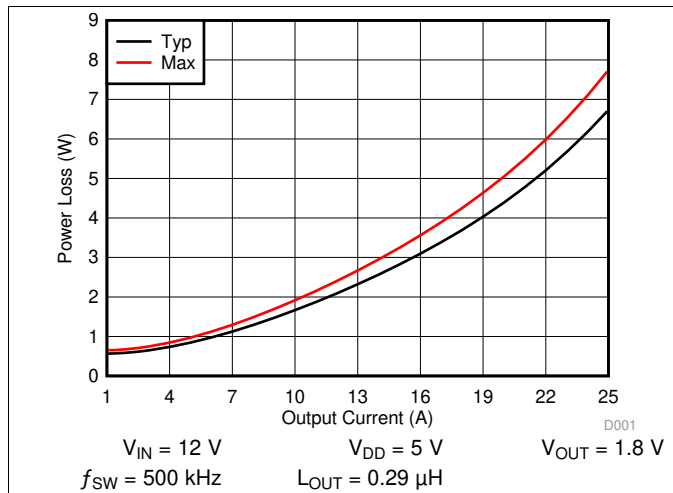
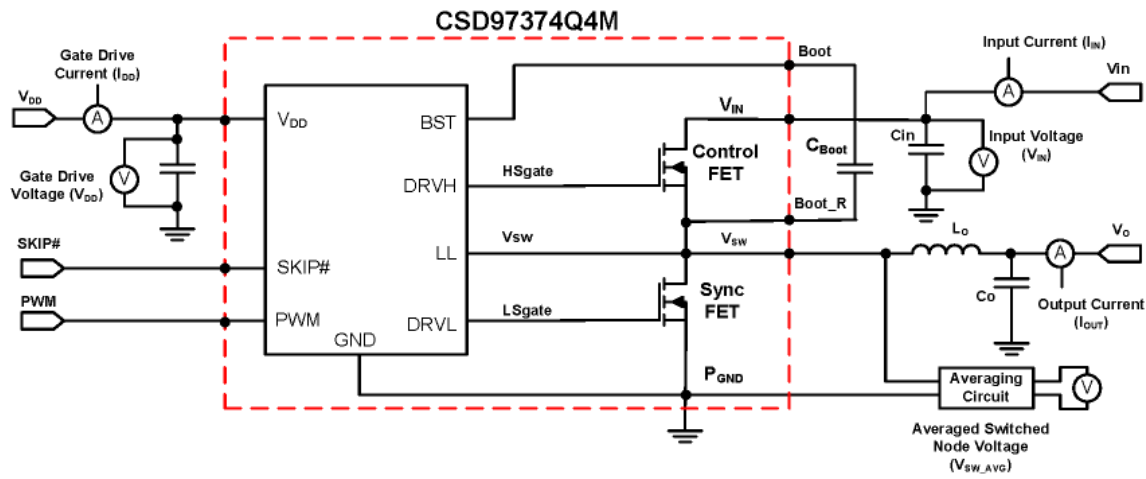

Figure 1. Power Loss vs Output Current
Figure 14. Power Loss Test Circuit
MOSFET centric parameters such as $R_{DS(ON)}$ and Q_{gd} are primarily needed by engineers to estimate the loss generated by the devices. In an effort to simplify the design process for engineers, Texas Instruments has provided measured power loss performance curves. Figure 1 plots the power loss of the CSD97374Q4M as a function of load current. This curve is measured by configuring and running the CSD97374Q4M as it would be in the final application (see Figure 14). The measured power loss is the CSD97374Q4M device power loss which consists of both input conversion loss and gate drive loss. Equation 1 is used to generate the power loss curve.
The power loss curve in Figure 1 is measured at the maximum recommended junction temperature of $T_J = 125^\circ\text{C}$ under isothermal test conditions.
- Typical power loss at 15 A = 2.8 W (Figure 1)